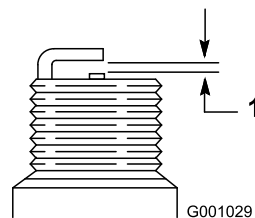

Figure 27
4. Set the gap between the electrodes on a new spark plug at 0.76 mm (0.030 inch) as shown in Figure 27.